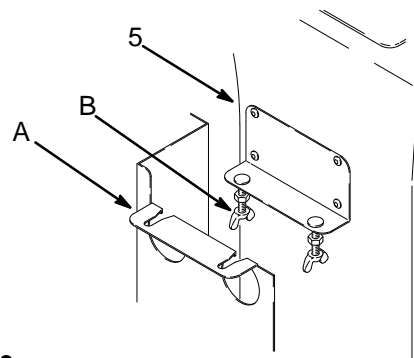

Fig. 3
1. To remove the hopper (5), loosen the wing nuts (B) and adjust them so they will slide through the notches in the mounting bracket (A) at the back of the cart. Tilt the hopper slightly forward and then lift the hopper off the unit. See Fig. 3.
2. To install the hopper, position the hopper drain over the pump inlet while tilting the hopper very slightly forward. (This is necessary to clear the hose rack at the back of the cart.) As you engage the drain and inlet, straighten the hopper and push down. Visually inspect the pump inlet to be sure the hopper is fully engaged. Tighten the wing nuts (B). See Fig. 3.